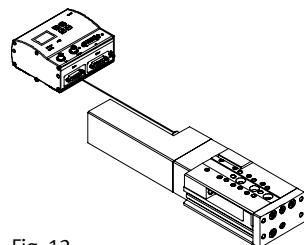

Fig. 12
- Connect the SLTE-... to the controller completely at connection **[5]** (compare Fig. 12).